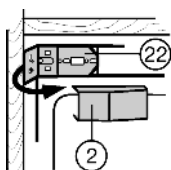

Fig. 17
- ▶ Fold in side part of the mounting bracket *Fig. 17 (22)*.
- ▶ Re-engage *Fig. 17 (2)* cover.
- ▶ Close all holes with stoppers *Fig. 17 (30,5)*.